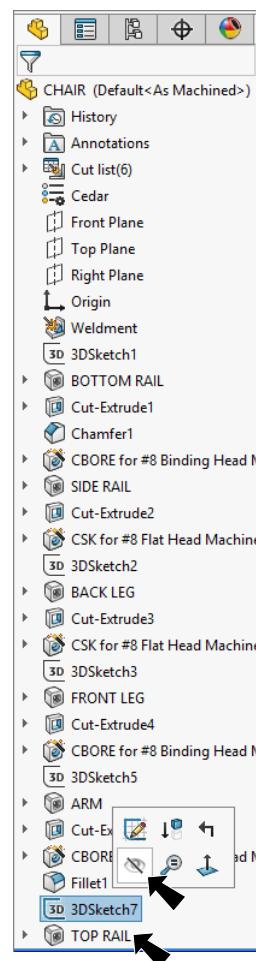

Fig. 13
Step 1. Rename Chair Wood 2 X 6(1) to TOP RAIL in the Feature Manager, Fig. 13.
Step 2. Hide 3DSketch7. To hide, click 3DSketch7 in the Feature Manager and click **Hide**  on the context toolbar, Fig. 13.